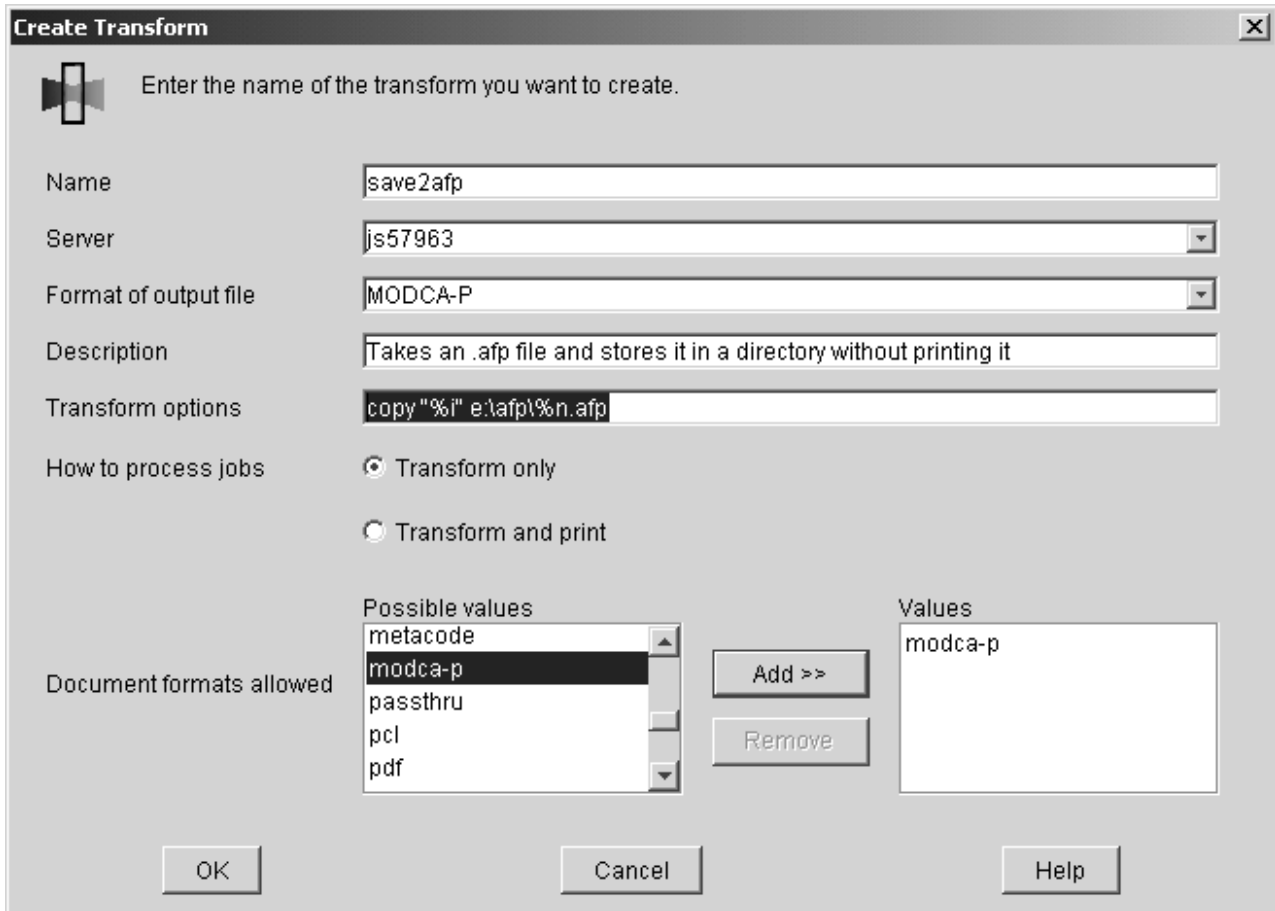

Figure 7. Create Transform dialog: Define a transform that copies an AFP file to a directory without printing
3. In the **Create Transform** dialog, fill in the fields as shown in Figure 7 on page 22. These values create a transform that copies AFP input data to an \afp folder on a specific drive.